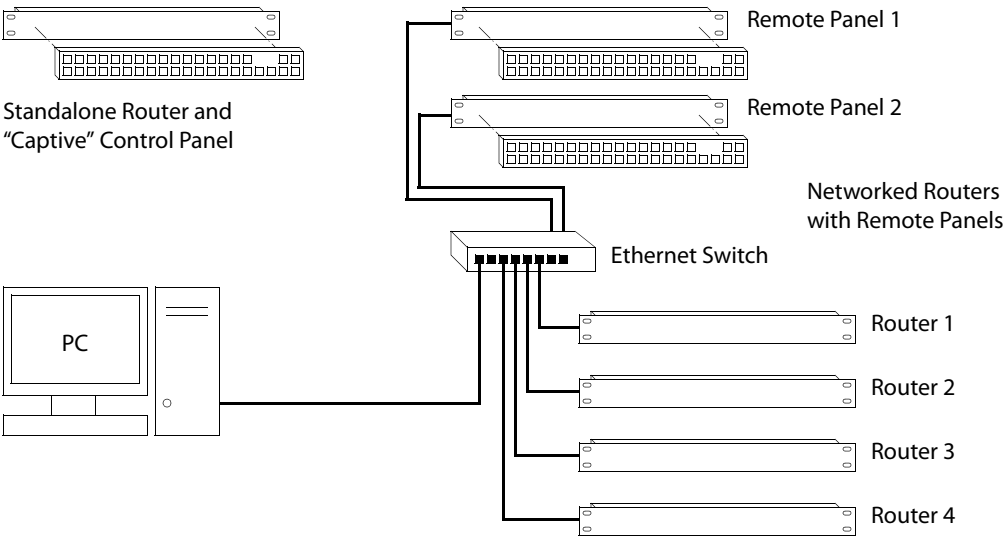

Fig. 1-1: Standalone Router vs. a Network of Routers
Figure 1-1 compares a stand-alone router with a captive panel to a router network with remote panel modules:
A CRSC network has the same topology as a stand-alone network (shown in Figure 1-1), except (1) the routers and remote panel modules have been configured under CRSC which provides a more elegant solution to system design than does a stand-alone network.